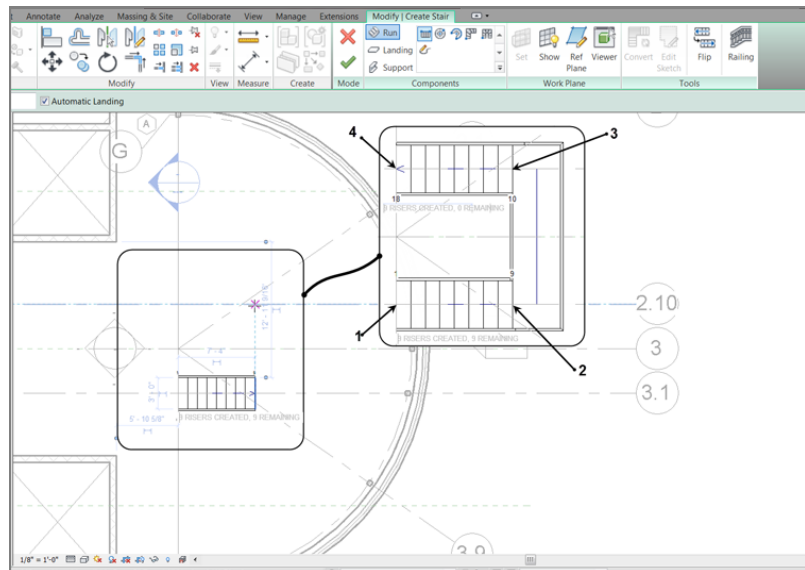

FIGURE 10.4: Laying out the stairs
9. Pick the intersection of the floor edge and grid 3.1 for the first point of the stairs. This spot is labeled 1 in Figure 10.4.
12. When you see that nine risers have been created with nine risers remaining, pick the spot labeled 2 in Figure 10.4.
13. Move your cursor straight up (north) until you get to the grid intersection labeled 3 in Figure 10.4. When you see this, pick the third point.
14. Move your cursor to the left—all the way past the floor landing. Revit reports that you have 18 risers created and 0 remaining (see Figure 10.4).
15. When the second leg is completed, pick the last point. Revit draws both legs as well as the landing (see Figure 10.4).